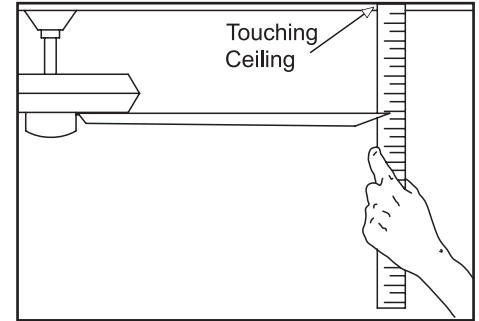

Figure 9
2. Most fan wobble problems are caused when blade levels are unequal. Check this level by selecting a point on the ceiling above the tip of one of the blades. Measure from a point on the center of each blade to the point on the ceiling. Measure this distance as shown in Figure 9. Rotate the fan until the next blade is positioned for measurement. Repeat for each blade. Measurement deviations should be within 1/8". Run the fan for 10 minutes.